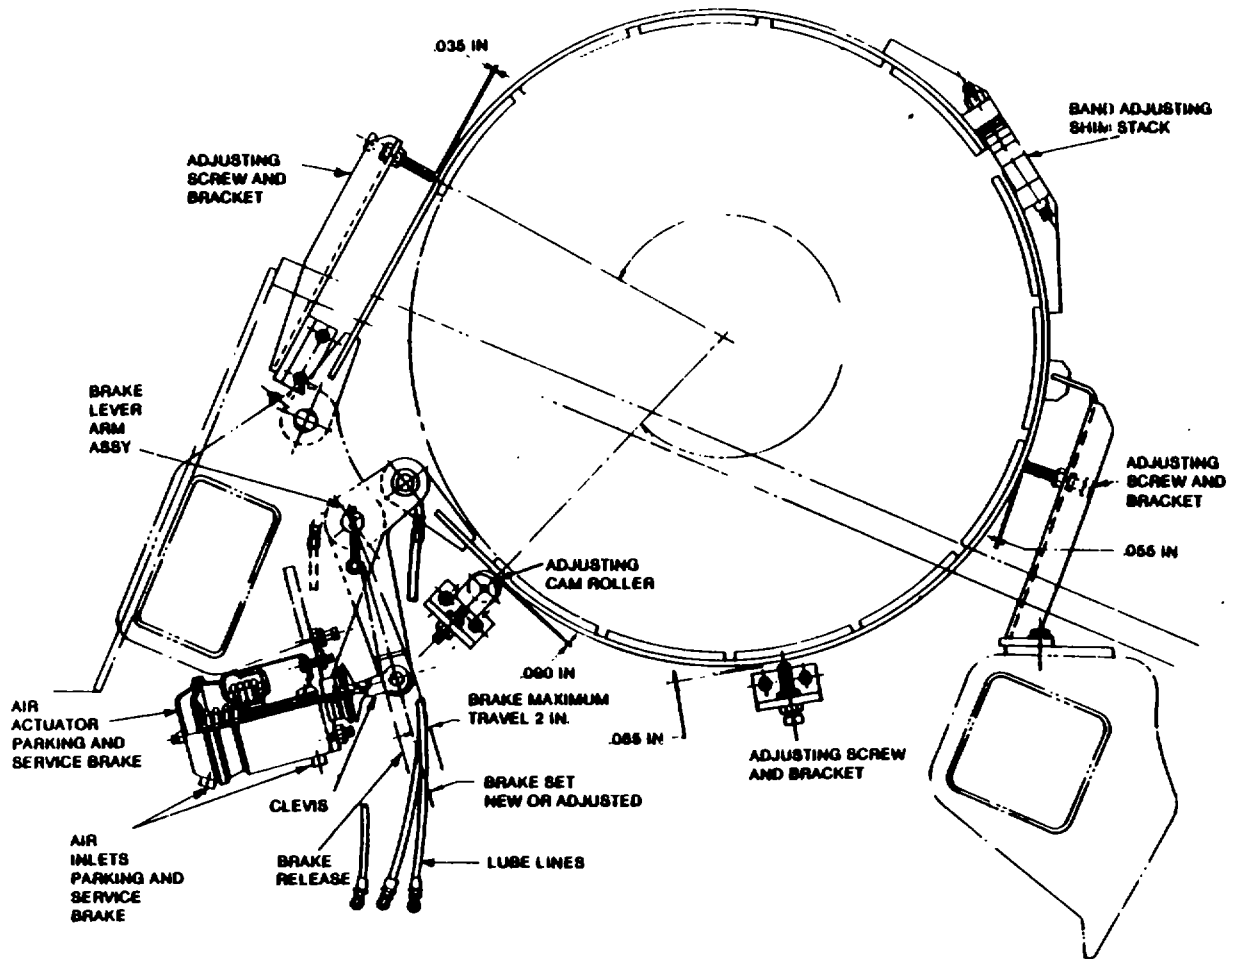

Figure 5-44. Drum Brake Assembly.
a. General. The Conmaco Model 270 two drum winch has a brake attached to each drum mechanism. The brakes are band type that are applied around the exterior surface of the cylindrical brake drum welded to the cable drum flange. Figure 5-44 is a schematic of the right side of the cable drum showing the location and size of the brake drum flange.
(1) Front and rear drum brake assemblies are identical except that certain brake band hardware is located differently.